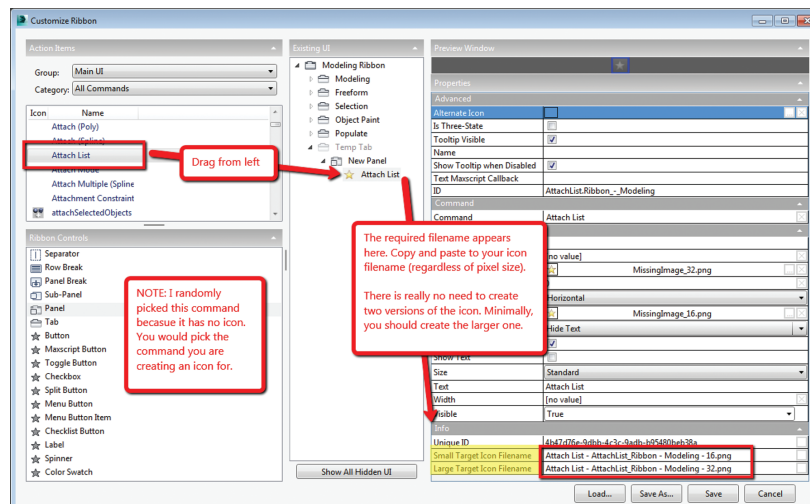

Figure 20: Finding the required file name
- 5) Locate the "info" portion of the "Preview Window" column. At the bottom of the column is the file name needed to have the icon used properly by the application (Figure 20).